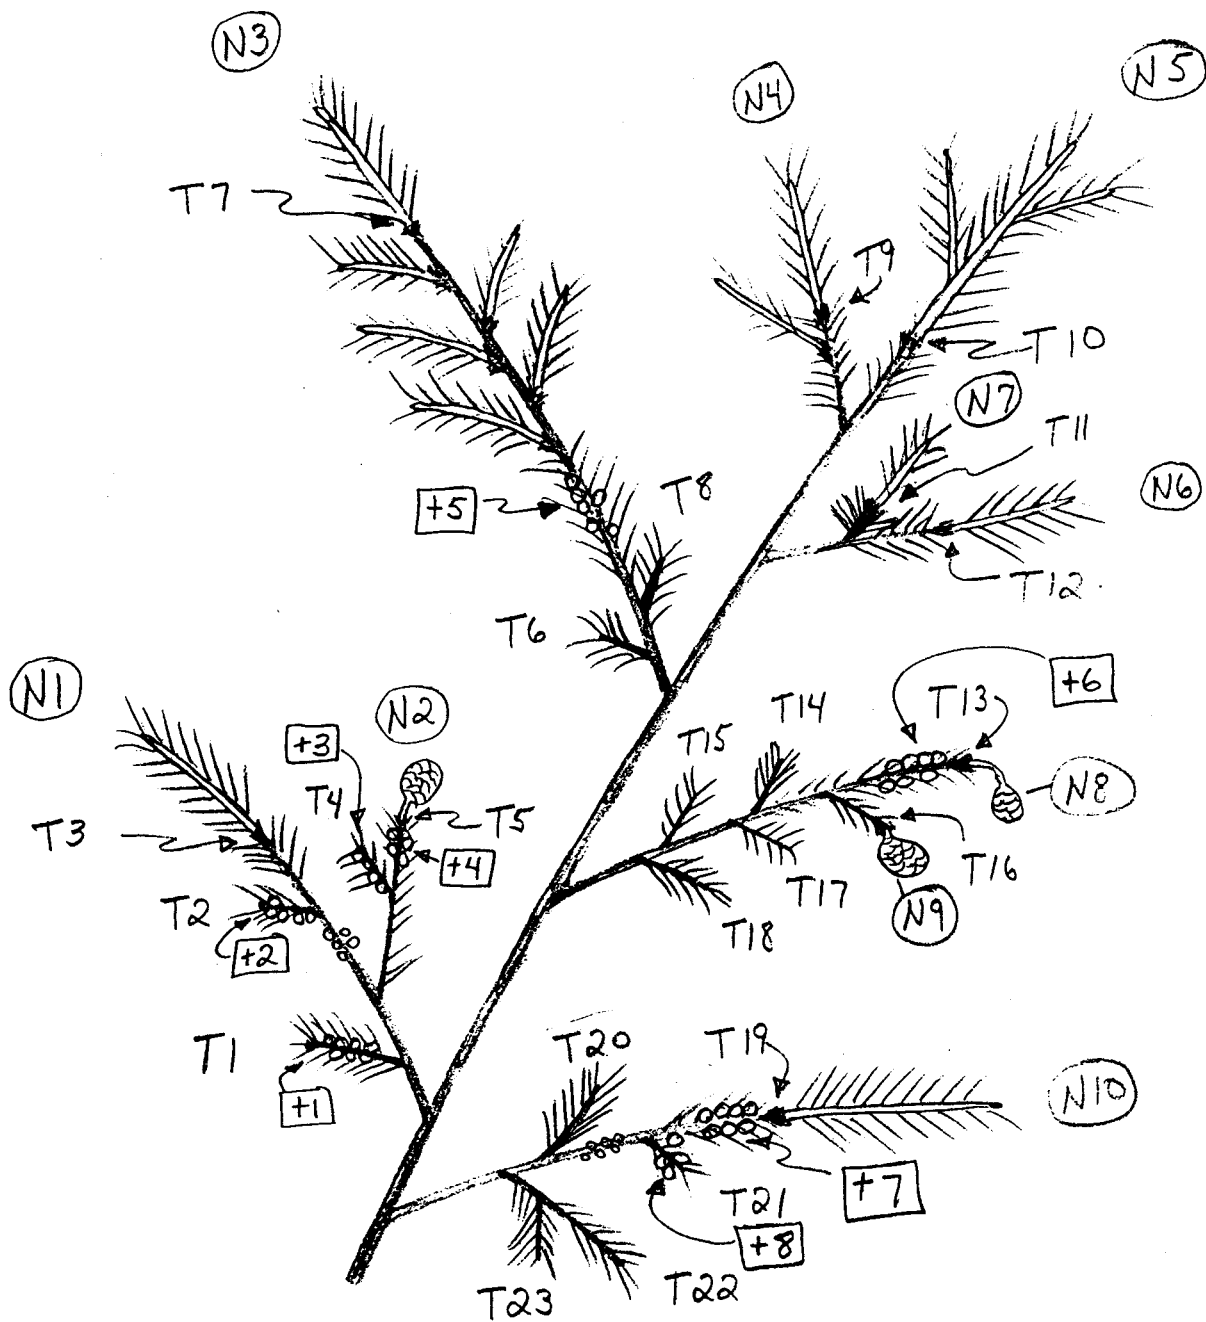

Figure 2. May - July HWA count.
+HWA (presence of adelgid): Count and record the number of non-new growth terminals ("Terms" as described above) that have HWA (woolly masses). Again, if all "Terms" have HWA, "+HWA" will equal "Terms." See figure 2.
-HWA (absence of adelgid): Count and record the number of non-new growth terminals ("Terms" as described above) that do not have HWA (woolly masses). Note that the sum of "+HWA" and "-HWA" must equal "Terms." See figure 2.